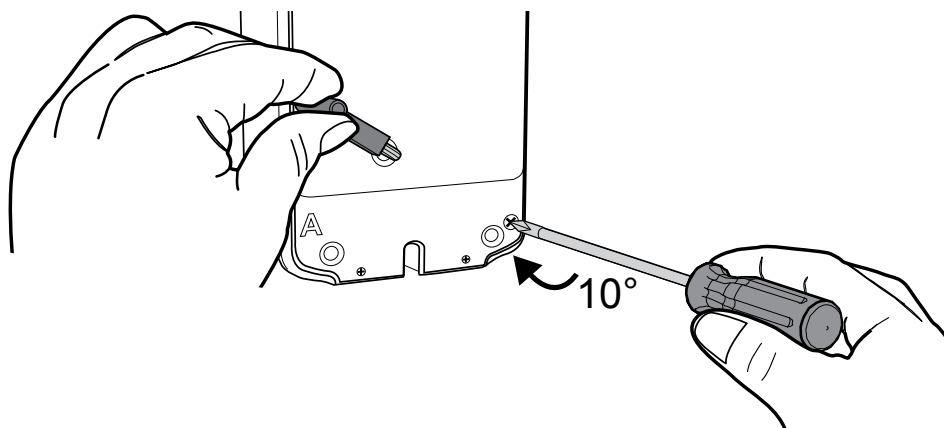

Figure 6: Rotate and hold the red lock shaft approximately  $10^\circ$
5. While holding the manual crank in the desired position, rotate and hold the red lock shaft approximately  $10^\circ$  then release the manual crank to lock the actuator hub in place (*figure 6*).